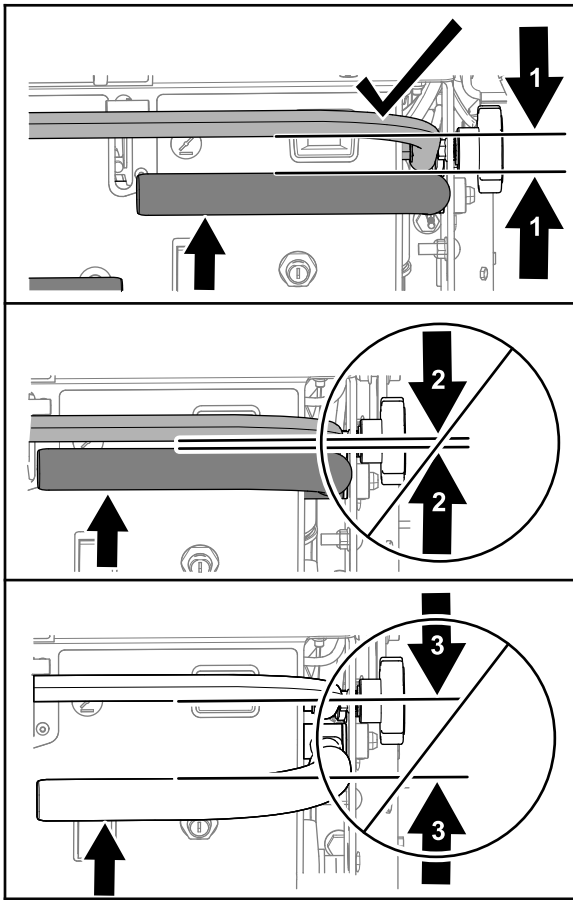

Figure 96
3. Push the motion-control lever forward, and measure the distance between the speed bar and motion control lever (Figure 96).